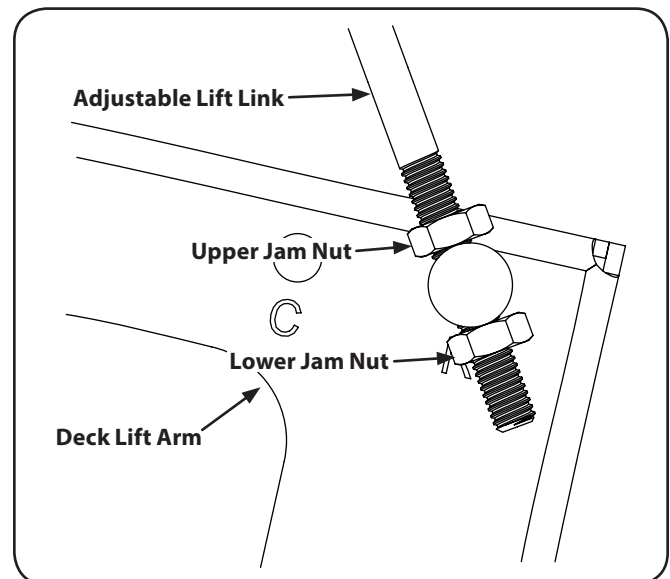

Figure 6-6
3. Loosen the lower jam nut on the adjustable lift link attached to the deck lift arm to lower the deck and tighten the upper jam nut to secure the deck in place, loosen the upper jam nut then tighten the lower jam nut to secure the deck in place. See Figure 6-6.